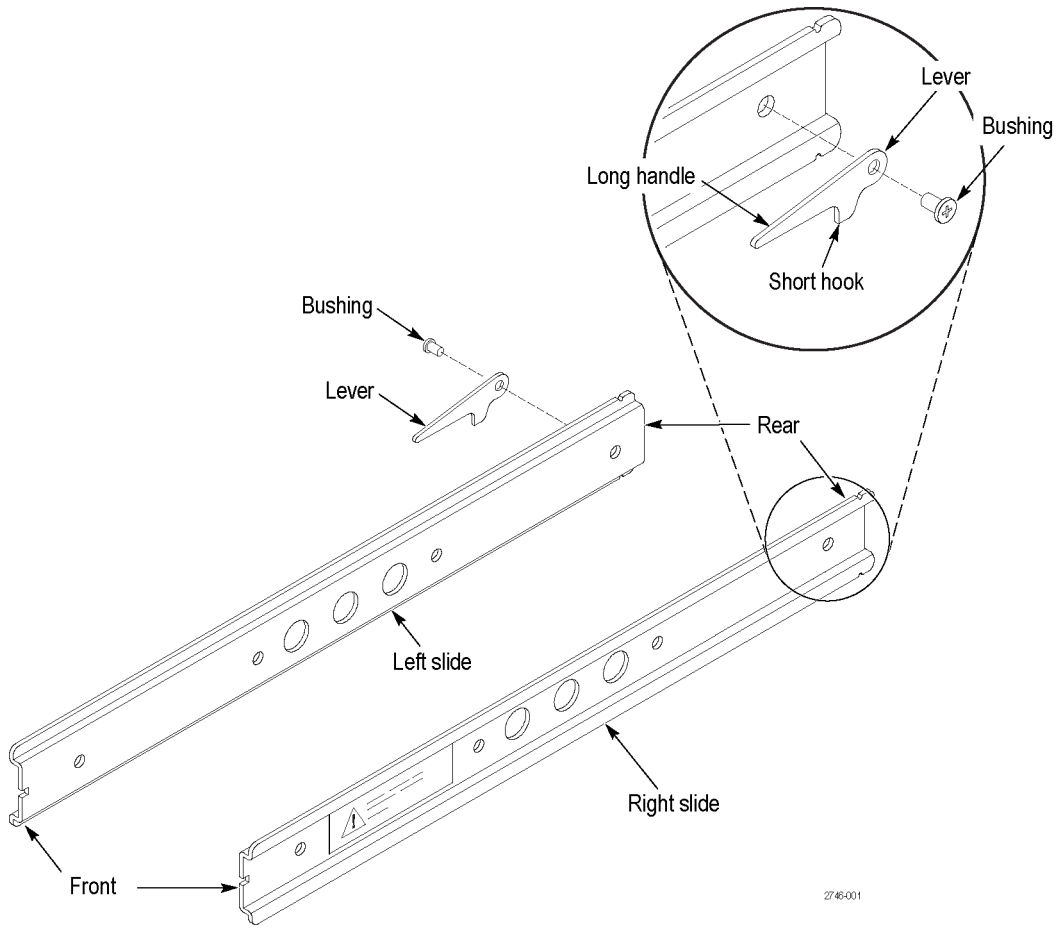

Figure 3: Attaching the slides (all instruments except the SPG700, SPG8000 and SPG8000A)
1. Identify the right rear and left rear of each slide. A warning label will be on the outside side of each slide. (See Figure 3.)
- a. **All instruments except the SPG700, SPG8000 and SPG8000A:** Using either the metric or English screws, depending on your instrument, insert three screws into the first three holes. (See Figure 3.)